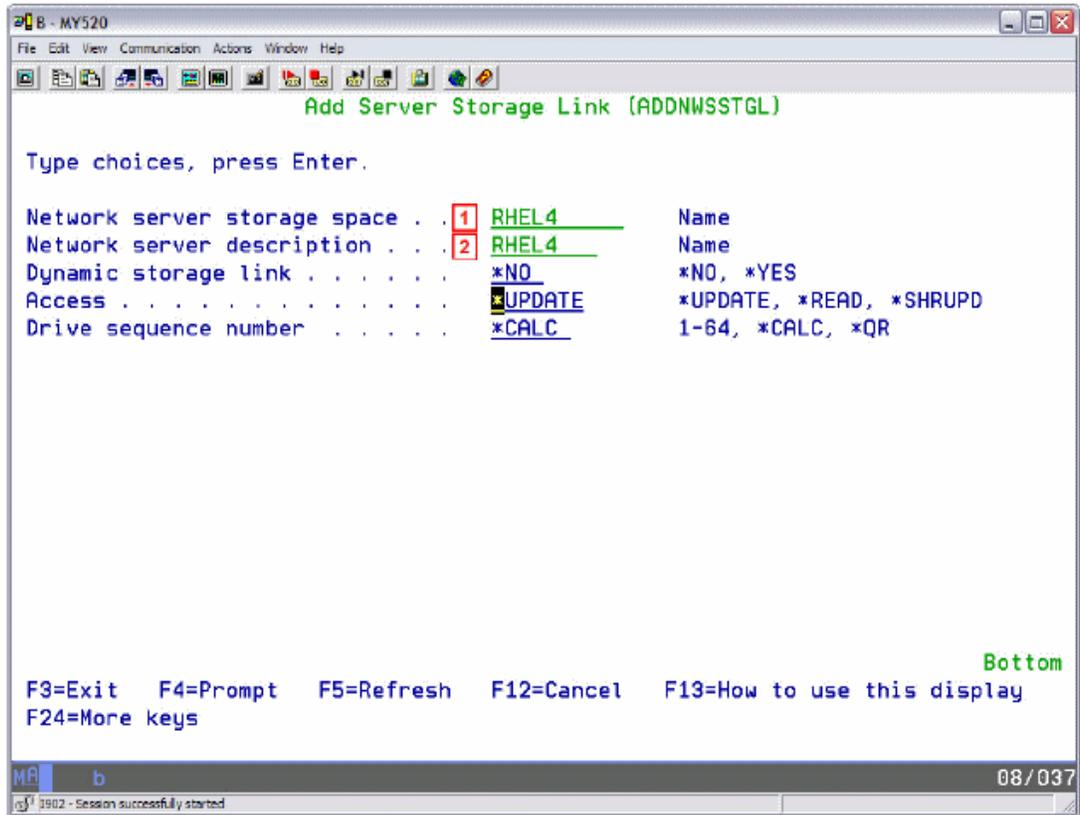

Figure 13-29 Add Server Storage Link
- Associate the Network Server Storage Space with the Network Server, by linking the storage space to the network server. Type the Add Server Storage Link command, **ADDNWSSTGL** as seen in Figure 13-29.